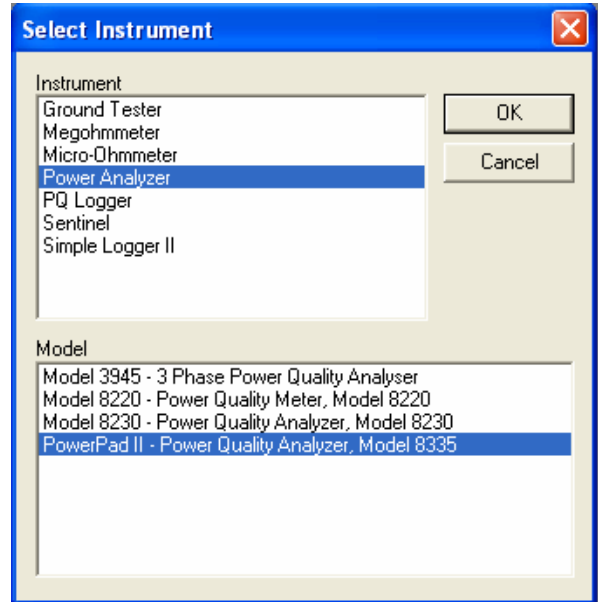

Figure 2
- Click the **Configure Instrument** button and the **Select Instrument** window will appear. (Figure2)
- From the **Select Instrument** window select the **Power Analyzer** option and click **OK**. (Figure2)
**NOTE:** The instrument must be configured for the same communications rate specified in Figure 2. If it is not, then you must either select the corresponding rate or change the instrument's rate.